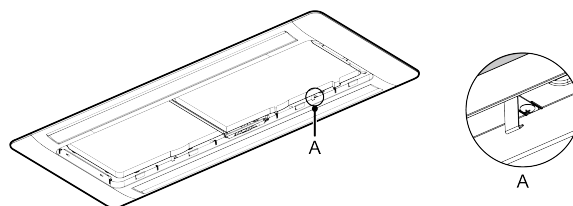

Fig.4.4.6
- (2) Adjust the position of panel to make the panel holes fix at the holes on the unit.
- (3) Fix the 4 screws at the two side of panel and then fix the 2 screws in the middle of panel.
- (4) Tighten the two “J”-shape hooks in the accessories on the panel with screws, please refer to Fig.4.4.6.